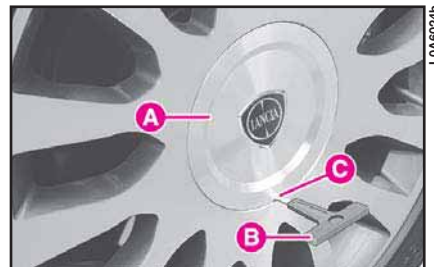
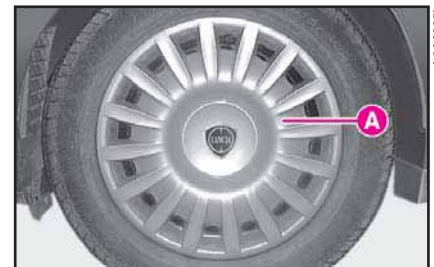

fig. 9
fig. 10
10) On versions with alloy rims, remove the press-fit wheel hub cap **A** (fig. 9), pulling it by tool **B** fitted into **C**. On versions with steel rims, remove the press-fit wheel cap **A** (fig. 10).